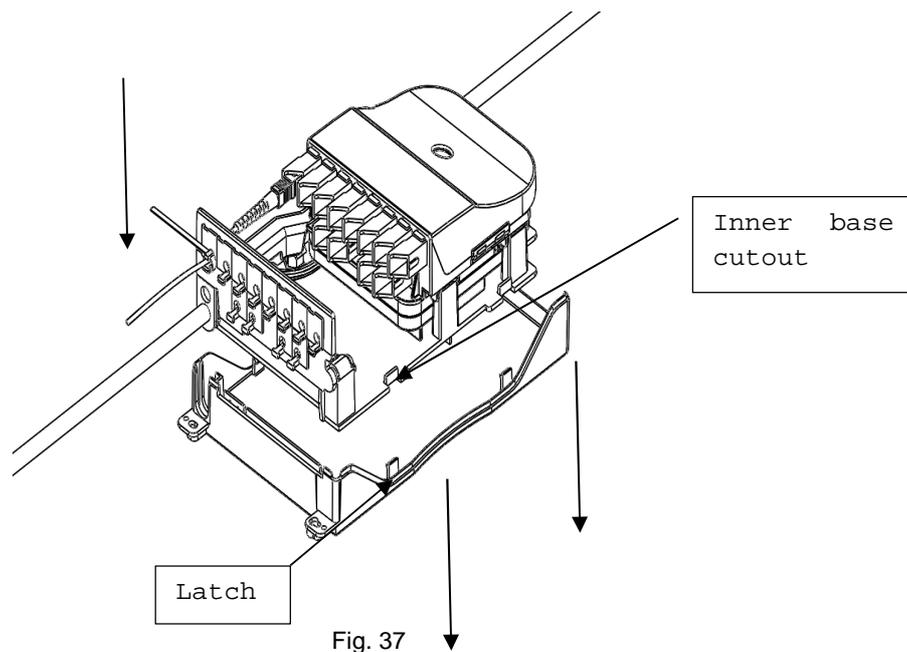

Fig. 37
- 5.2.2. To re-install the inner base, push the inner base straight down until the lower base latches fully engage. Make sure that the latches are aligned with the inner base cutouts before pushing the inner base down (Fig. 37);